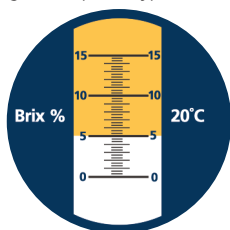

Figure 2. A Typical Refractometer Scale
Place a few drops of water (used for the mixture) between the plastic cover (6) and the prism (7). Hold the refractometer horizontally and point it at a light source. Look into the eyepiece (1) and adjust the scale calibrating knob (4) until the boundary line which separates the light and dark areas of the scale is aligned with the zero line on the scale. Figure 2 depicts a typical refractometer scale.
A 5.0 reading on the refractometer scale, as seen in Figure 2, multiplied by the refractometer factor of 0.9 yields a 4.5 % mix concentration